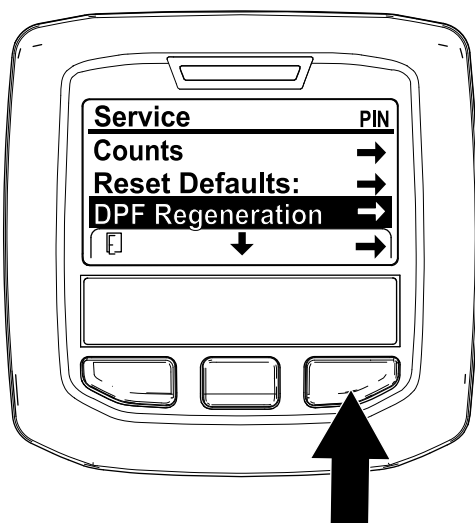

Figure 36
- Access the Service menu, press the center button to scroll down to the DPF REGENERATION option (Figure 36).
- Press the right button to select the DPF Regeneration entry (Figure 36).